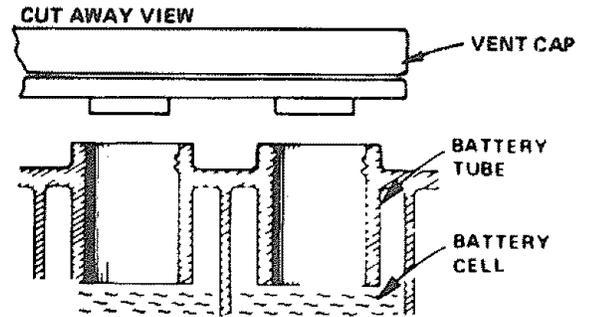

FIGURE 1
- c. Fill each cell with battery acid. Add the acid until it reaches the bottom of the battery tube (Fig. 1). Do not add the acid beyond this level or the additional acid can come out when the battery is charged.